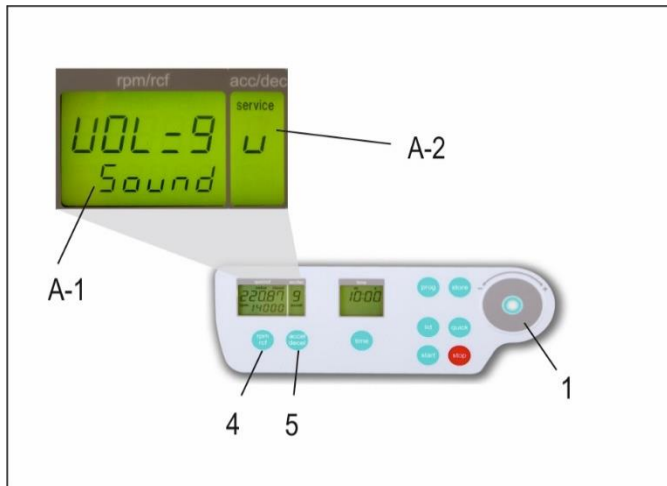

Figure 8
Proceed as illustrated, under point 1.9.1, to enter this program mode, press the key "accel/decel" (5). In the display, "accel/decel" (A-2), flashes the word, "service". Select the letter, "U" with the control field (1). As a result, appearing in the display, "rpm/rcf" (A-1), are the words, "Vol=0- 9/Sound". By pressing the key, "rpm/rcf" (4), the desired volume can be adjusted between 0 (low) and 9 (loud), with the control field (1), (see Figure 8).